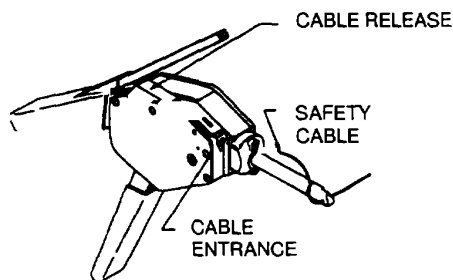
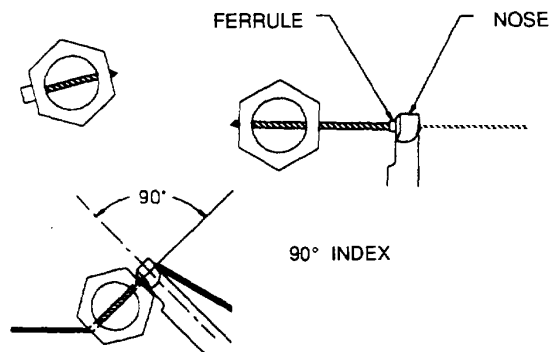

Figure 2-96. Pre-Set Tension Safety cable Tool
Figure 2-97. Position of Safety Cable Tool,
(1) Insert the free end of the cable through the tool nose (see figure 2-96) and slide the tool along the cable to the fastener being secured. See figure 2-97.
**perpendicular to the cable as possible while completing a full stroke. This assures consistent tensioning of the cable. See figure 2-97.**